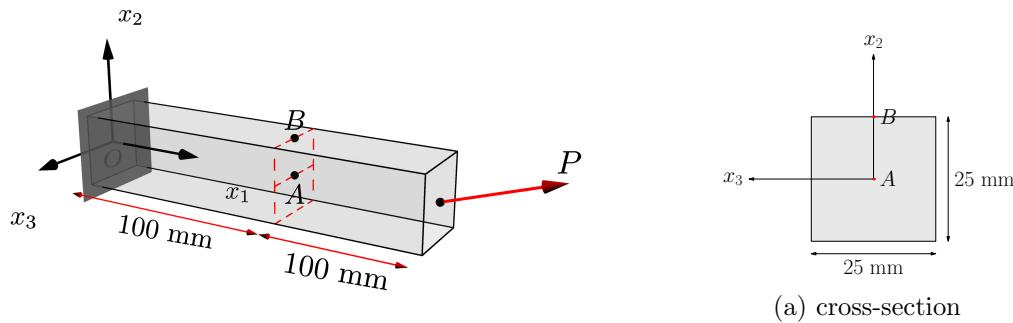

Figure 2
3. Consider the loading condition given in Fig. 2. The load $P = (100 \mathbf{e}_1 + 100 \mathbf{e}_2)$ N.